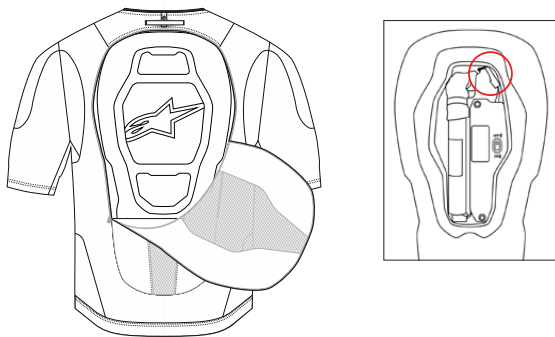

Figure 23: Disconnect the LED Display (3)
**1. Disconnect the LED Display (3)** – First, place the System on a flat surface preferably on top of a workbench or table, with the front of the System facing downwards. Access the Back Protector (4) by opening the zip located on the back side of the System. Open the cover with the Velcro closure on the Back Protector (4) and disconnect the LED Display (3) connector as indicated in Figure 23.